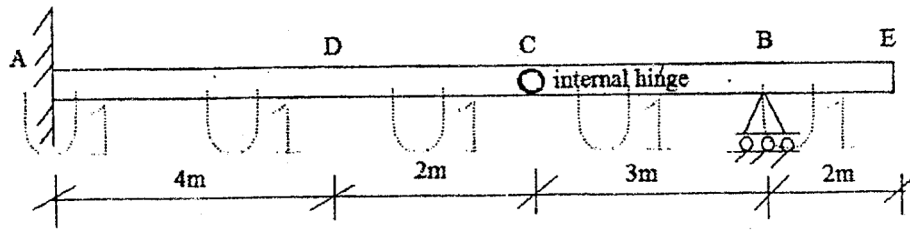

Figure: 8
10. For the beam shown in Figure 8. Draw the ILD for the following: